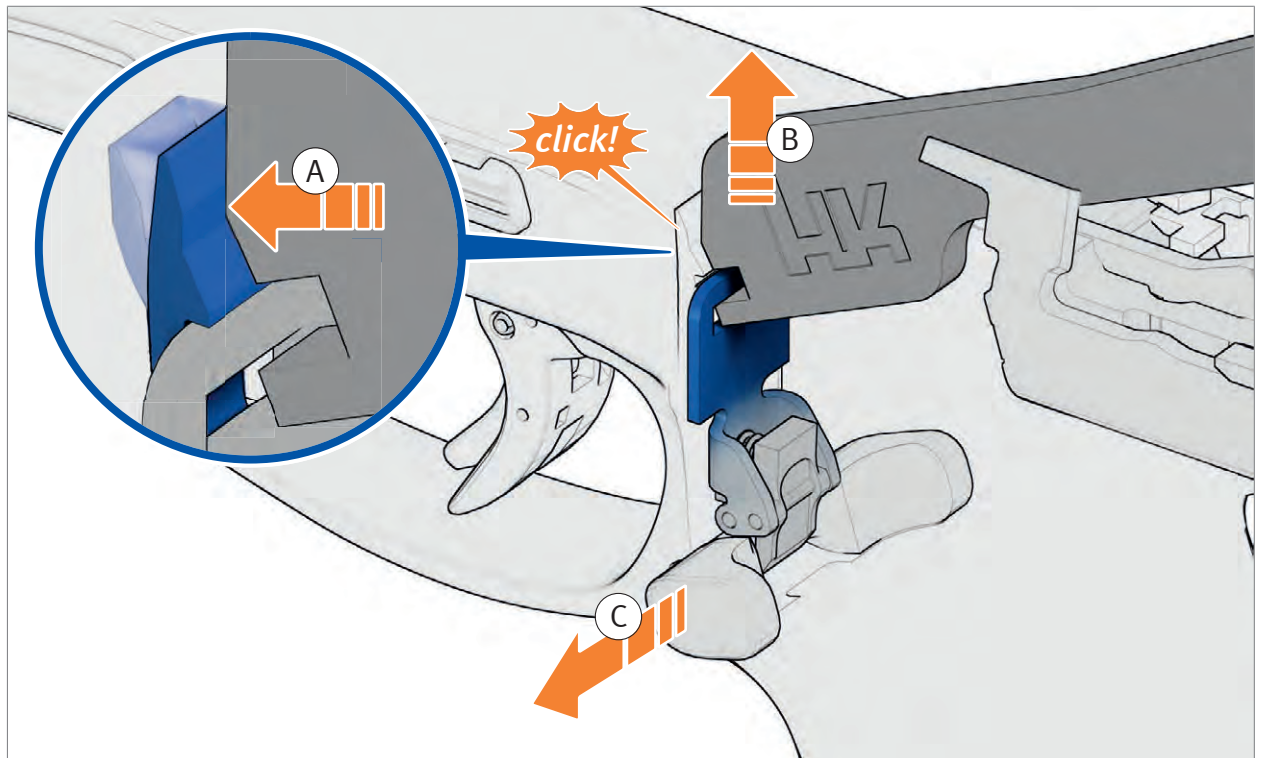

Fig. 24: Remove Push-Button
2. Push the latching clip in the pistol grip forwards with the tool and then push the magazine catch upwards (Fig. 24). The magazine catch latches in.
3. Remove Push-Button (Fig. 24).